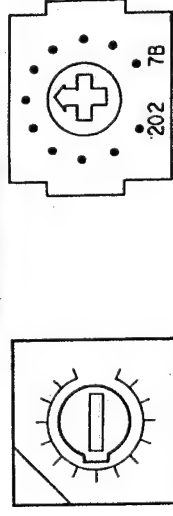

Fig. 1-6.
3. Set the H-STATIC CENTER (RV23) on the DC board to mechanical center as shown in Fig. 1-6.